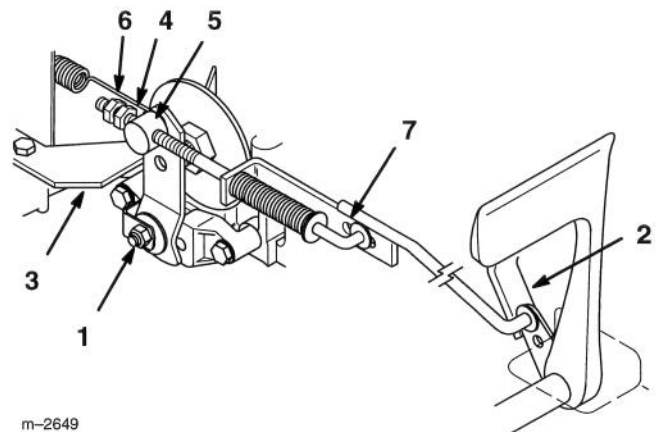

Figure 6
1. With brake lever against stop plate adjust brake adjusting nut so brake disc just rotates when wheel hub is turned by hand (Fig. 6).
2. With brake pedal back against pedal stop, turn adjusting nut against trunnion until brake lever just touches stop plate. Brake pedal should begin to move brake lever before the brake spring starts to compress (Fig. 6). Tighten second jam nut to hold adjustment.
**Note:** When brake pedal is fully depressed, brake rod must not contact end of slot (Fig. 6).